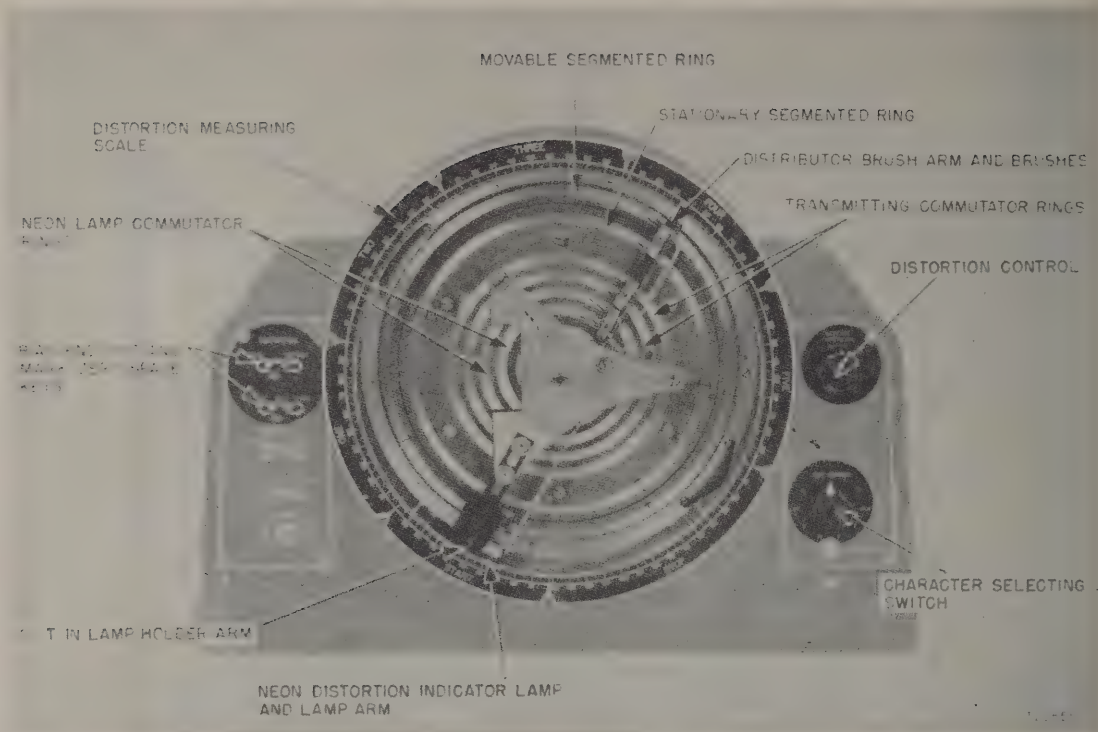

Figure 10. Distortion Test Set TS-383/GG, Distributor and brush arm assembly.
a. The distributor face is equipped with six concentric rings. The two outer rings are segmented, and the outer (movable) segmented ring may be oriented with respect to the inner (stationary) segmented ring. The position or setting of the outer segmented ring determines the amount of distortion transmitted. The four inner rings are solid conductors. The outer pair are used with the segmented rings in the transmitting circuits. The inner pair of solid rings are used for the neon distortion indicator lamp. An over-all view of the distributor is shown in figure 10.
c. The neon lamp is mounted on the hub opposite the distributor brush arm. (See fig. 10.) When incoming signals are being measured, the light from the lamp is viewed through a slit in the lamp holder arm. A cut-out in the face plate disk lines up with the lamp holder arm. The distortion measuring scale lines up with the cut-out in the face plate. As the neon lamp revolves with the distributor brush arm, it is lighted during marking impulses and the impulse lengths may be measured on the scale.